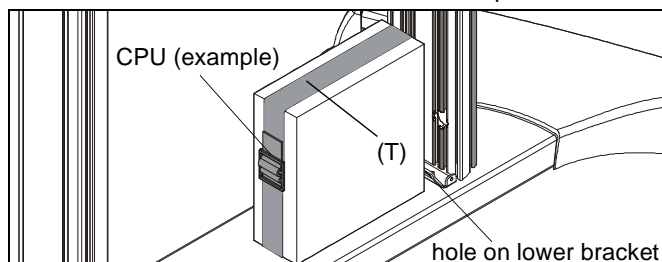

Figure 8
1. Route CPU strap (T) through hole on lower bracket and around CPU to secure CPU to column base. (See Figure 8)